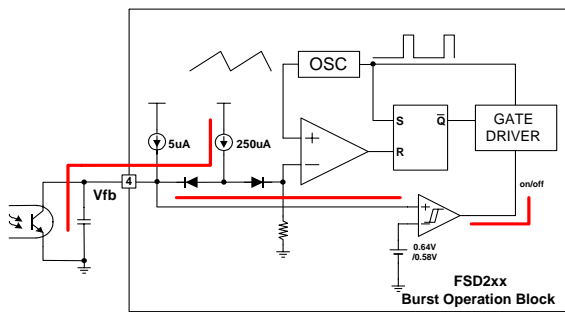
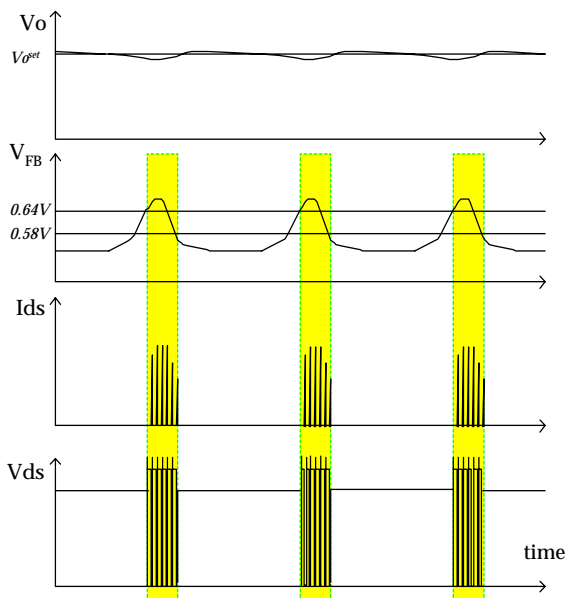

Figure 12. Circuit for burst operation
Figure 13. Burst mode operation
**6. Burst operation :** In order to minimize the power dissipation in standby mode, the FSD200/210 implements burst mode functionality (see figure 12). As the load decreases, the feedback voltage decreases. As shown in figure 13, the device automatically enters burst mode when the feedback voltage drops below VBURL(0.58V). At this point switching stops and the output voltages start to drop at a rate dependant on standby current load. This causes the feedback voltage to rise. Once it passes VBURH(0.64V) switching starts again. The feedback voltage falls and the process repeats. Burst mode operation alternately enables and disables switching of the power Sense FET thereby reducing switching loss in